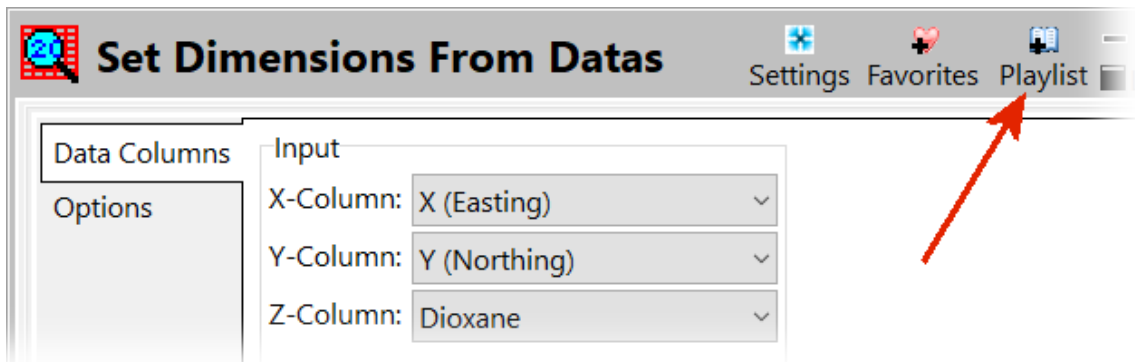

Figure 19
- Add this step to the Playlist so that the project will re-dimension itself to any changes within Datasheet. This is accomplished by re-selecting the *Dimensions / Scan / Datasheet* option and clicking on the Playlist option (Figure 19).